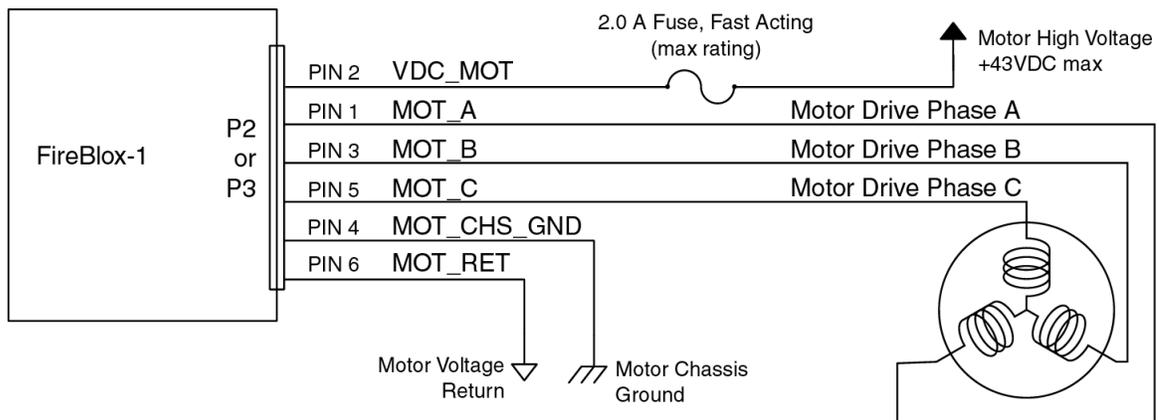

Figure 10. Wiring a 3-Phase Brushless Motor
1. Connect three-phase motors to P2 or P3 on the FireBlox-1 as shown in Table 2 and Figure 10.